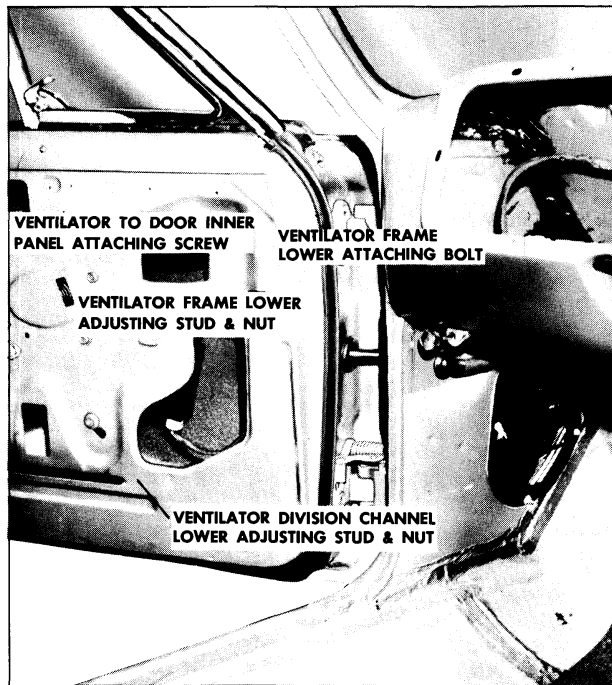

Fig. 12-23 Ventilator Attachment
5. On door hinge pillar, remove ventilator frame lower attaching bolt and ventilator frame lower adjusting stud nut (Fig. 12-23).
1. A slight fore and aft adjustment of the ventilator division channel is available at the lower adjusting stud and nut by loosening attaching nut and sliding nut in slot provided (Fig. 12-23). The division channel can also be positioned in or out by loosening nut and turning stud in or out as required and tightening nut.